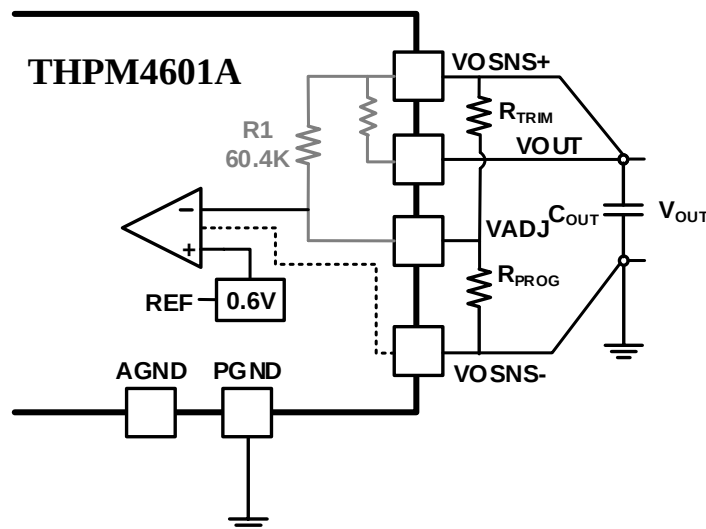

Fig. 2: Output Voltage Trim Circuit
To further improve the set-point accuracy, two resistors can be used in series or in parallel for R_{PROG} or another R_{TRIM} resistor can be used between $VOSNS+$ and $VADJ$ pins as shown Fig. 2. The resulting output voltage after using an optional R_{TRIM} resistor is given in equation (2).